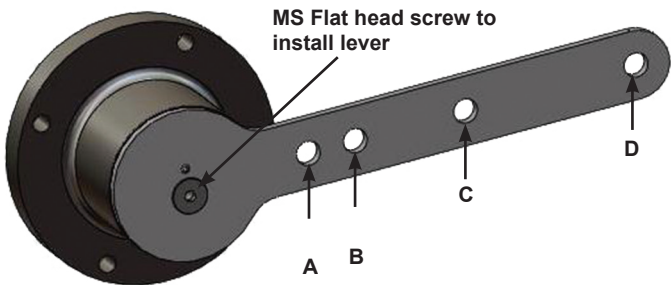

Figure 13 - Magnet Holder and Standard Lever for Reciprocating Valves
This section describes the procedure for mounting the SVi1000 on Reciprocating Valves, using Masoneilan's 87/88 Multi-Spring actuators as an example. Figure 13 on page 26 shows the standard lever for all size installations. See *Integrated Magnet Assembly* on page 29 for the optional IM assembly.
2. Ensure that the lever is pinned to the magnet assembly and held securely by an M5 flat head screw to ensure that the magnet axis is vertical when the lever is in the valve closed position. Tighten the lever screw securely (Figure 13).